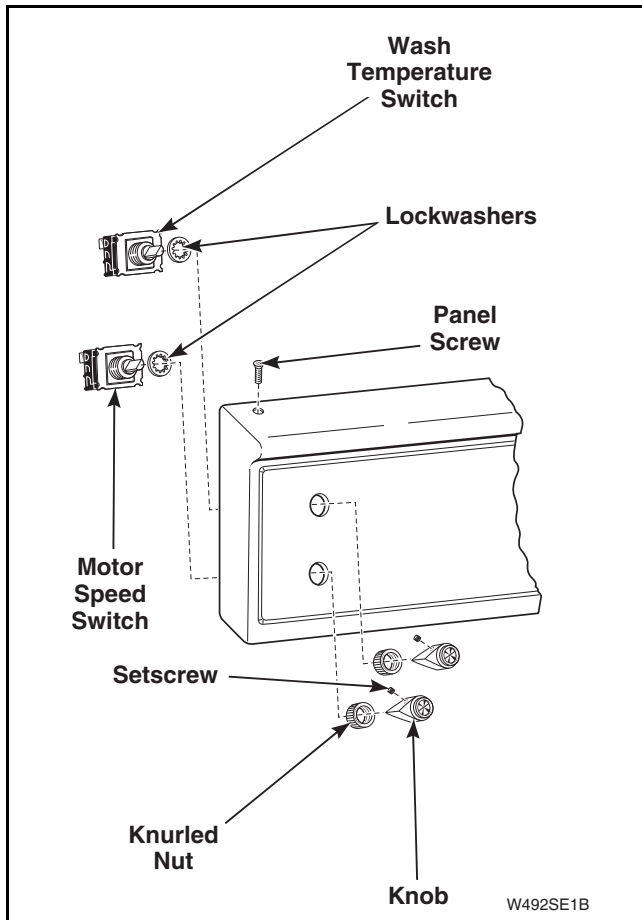

Figure 17
- (2) Loosen setscrew holding switch knob to switch shaft. Refer to *Figure 17*.
- (3) Remove knurled nut holding switch to control panel. Refer to *Figure 17*.
NOTE: Lockwasher must be between switch and control panel when installing switch. Refer to *Figure 17*.